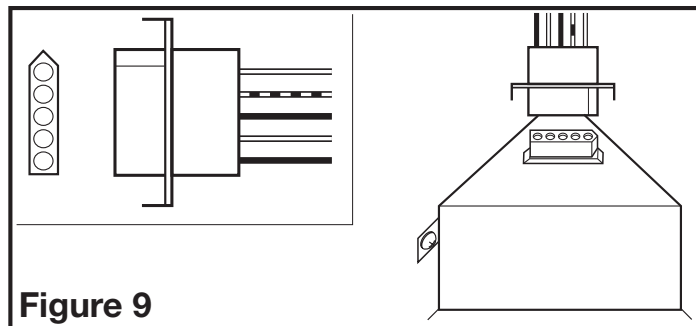

Figure 9
- Plug the fan's quick connect motor cord into the receptacle. This cord will only fit one way into the receptacle (**Figure 9**).